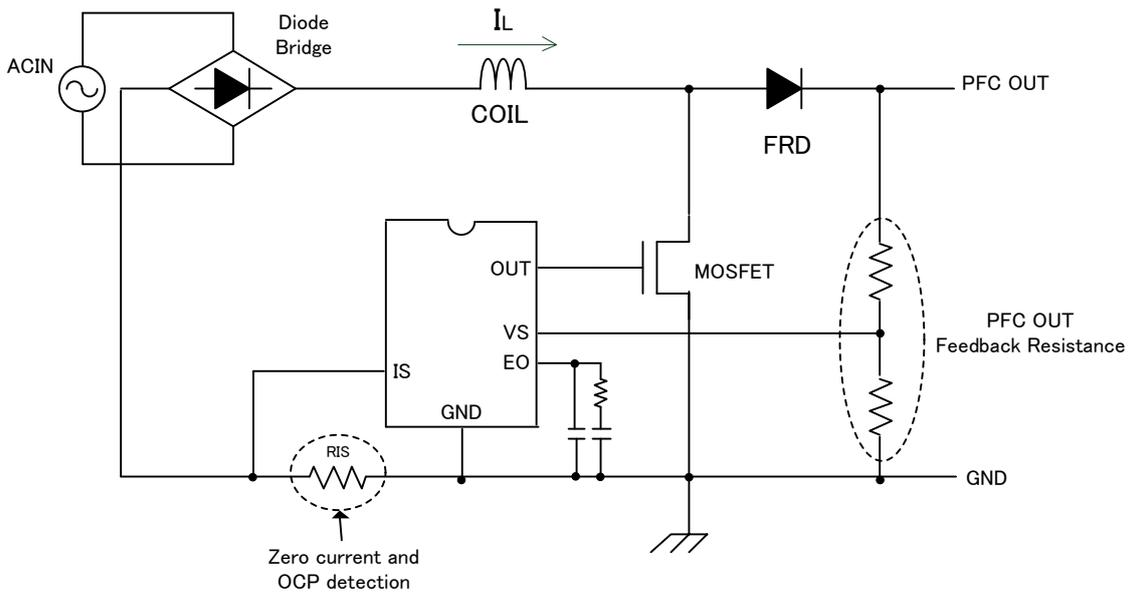
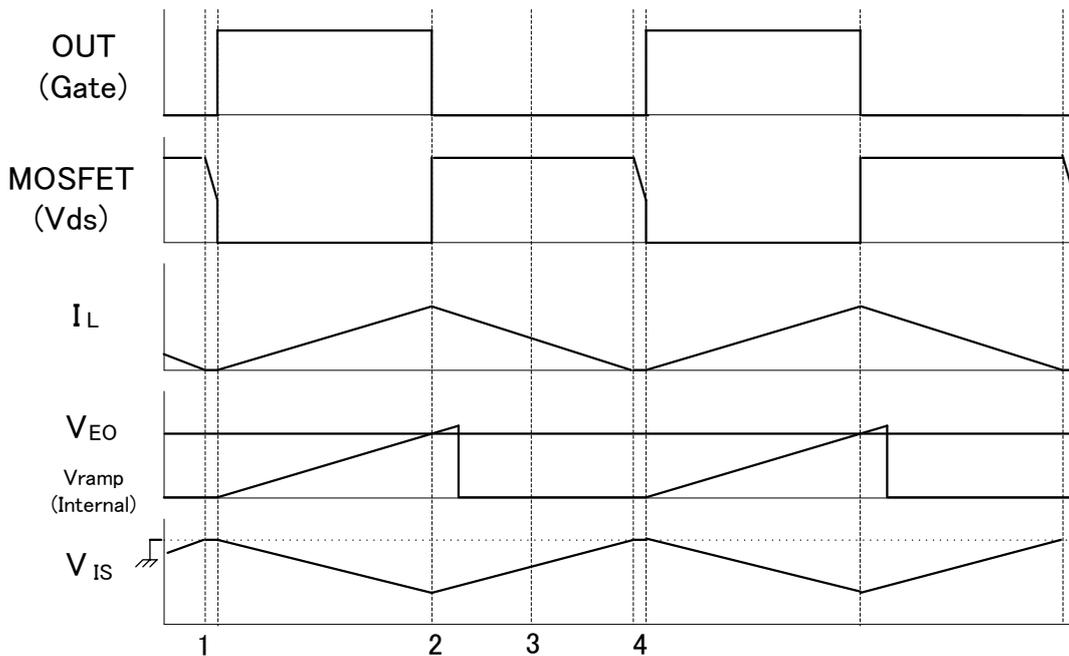
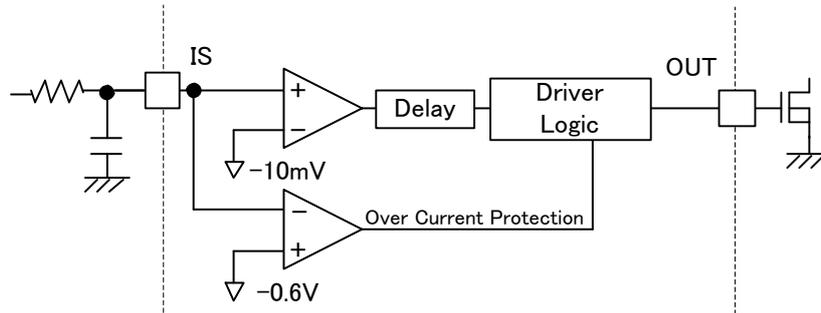
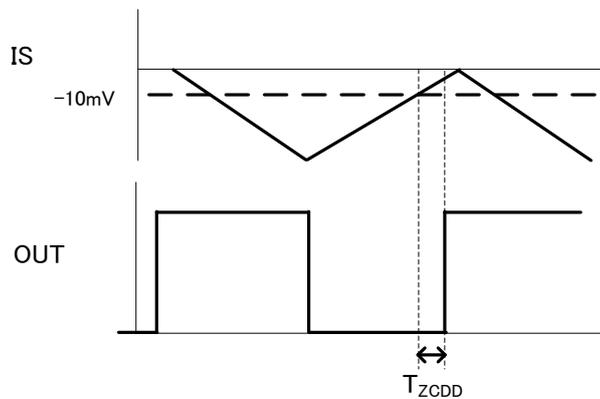

Figure 4. Operation circuit outline
Figure 5. Switching operation timing chart
Figure 11. IS pin current detection circuit
Figure 12. IS zero current detection delay time
The outline operation circuit diagram is shown in Figure 4. The switching operation is shown in Figure 5.
**(5) IS pin Zero current detection and overcurrent detection function**
The zero current detection circuit is a function to detect a zero cross of the inductor current (IL) (cf. Figure 11). When the voltage of the IS pin becomes higher than the zero current detection voltage, the OUT output becomes High after progress at zero current detection delay time(TZCDD ). Please set the RIS value (cf. Figure.4) so that IS pin voltage becomes less than VIS\_OCP (-0.6V typ.). In addition, it recommends that it adds CR filter for switching noise reduction. It shows operation in Figure 12.